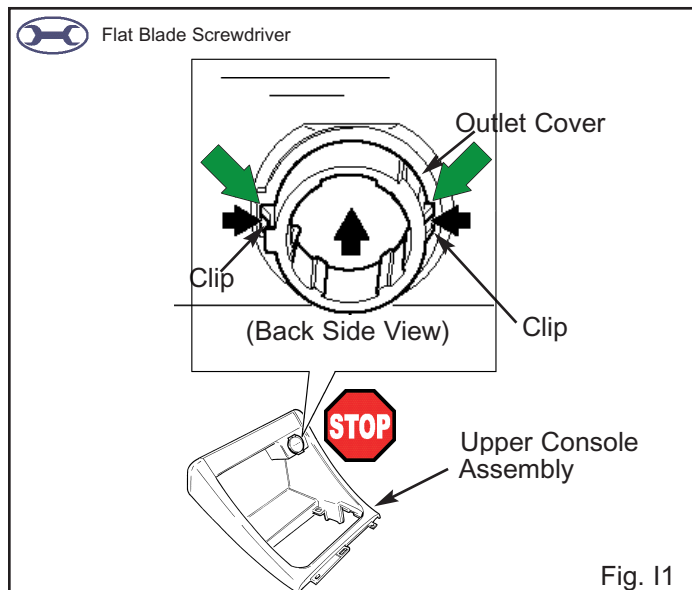

Fig. I1
1. Remove the power outlet cover from the upper console panel. (Fig. I1)